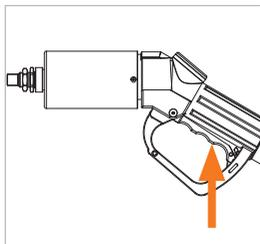

Figure 12
- ▶ Pull the actuation lever (Pos. 7) on the hand grip (Pos. 8) of the fueling nozzle fully up to its ON position (Figure 12) until it engages with an audible click and the green ring is visible (Figure 13).